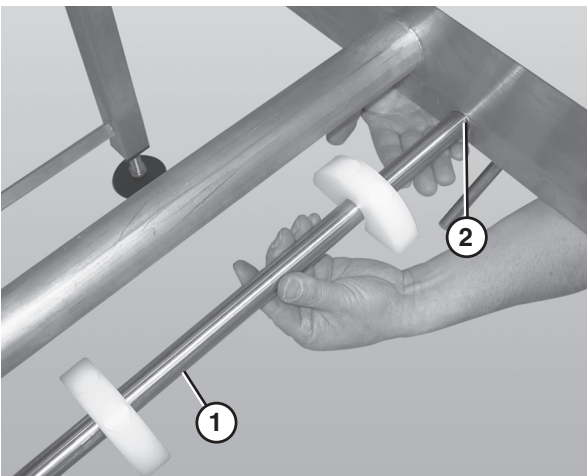

Figure 65
1. Remove the belt returns by pushing up on the return shaft (Figure 65, item 1) and sliding it through the large hole (Figure 65, item 2) in the frame.
2. Lower the opposite end of the return shaft (Figure 65, item 1) and slide it out of the frame.